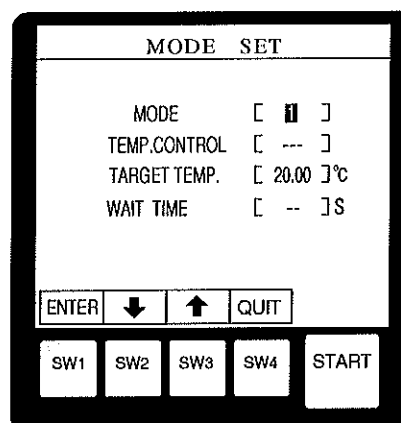

Fig.10-1
- The unit switches to a screen typically shown in Fig. 10-1. The MODE value should be blinking. Use the SW2(\downarrow) or SW3(\uparrow) key to change the blinking number to [1] for MODE-1 or [2] for MODE-2, then press the SW1(ENTER) key.
- c) The unit switches to a screen typically shown in Fig.10-1. The MODE value should be blinking.